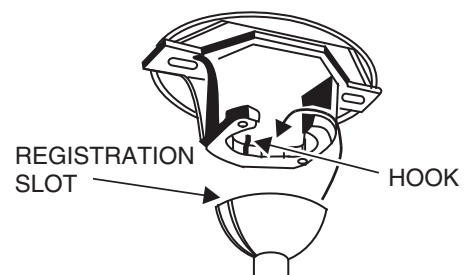

FIGURE 7
8. Place the downrod ball into the hanger bracket socket. Line up registration slot on ball with hook on mounting plate. (Fig. 7)